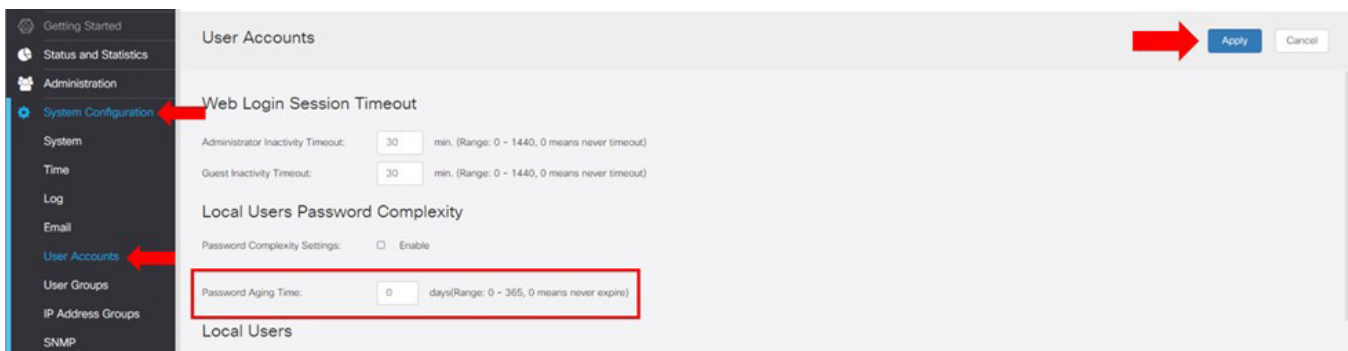

Figure 16
14. In the left navigation pane, select "System Configuration" and then select "User Accounts" (Figure 16)